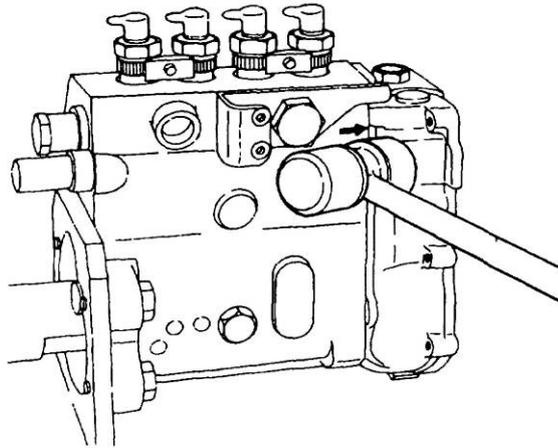

Figure 97 Removal of the Governor Housing
- t. Using a Phillips screwdriver and a 12 mm socket (special tool 157914-2400), remove the seven bolts and spring eye from the governor housing. Lightly tap the housing with a soft faced hammer to separate the housing from the injection pump (Figure 97).